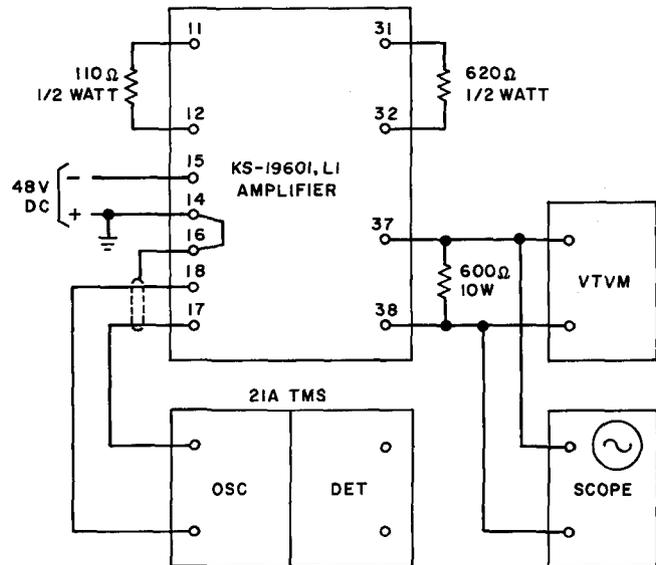

Fig. 3 — Test Setup for Observing Distortion of High-Level Channel
3.03 The distortion test should be made using the test setup shown in Fig. 3. Chart III gives the step procedure to be followed for the test.
2	Connect circuit as shown in Fig. 3.